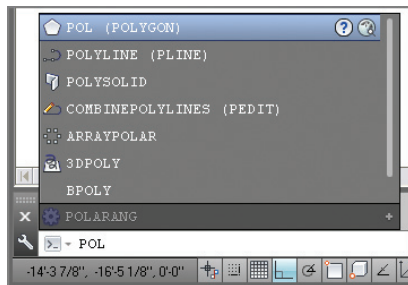

FIGURE 2.27 A menu suggesting commands and system variables appears as you type.
6. Type **POL**, and observe that, as you type, the AutoComplete menu appears above the command line suggesting commands and system variables (see Figure 2.27). Press the down-arrow key until **POLYGON** is highlighted, and then press Enter.